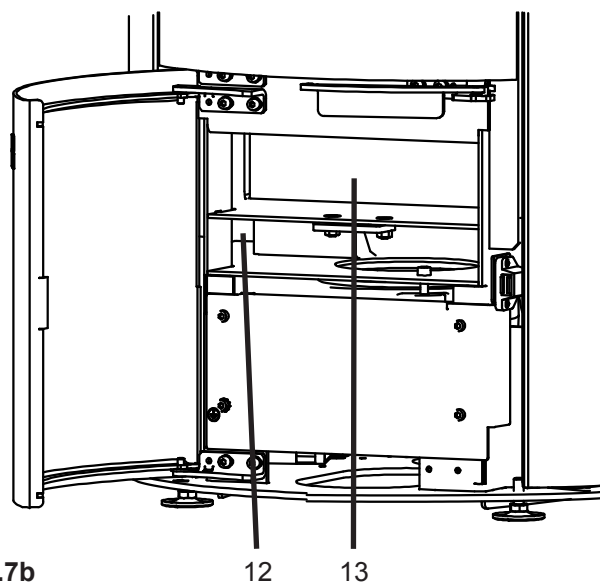

Fig.7b
- The ash box is behind the inspection door. For cleaning, release the locking mechanism of the ash box and pull the ash box forward and out. Also clean the area below the ash box compartment (see Fig.7b).